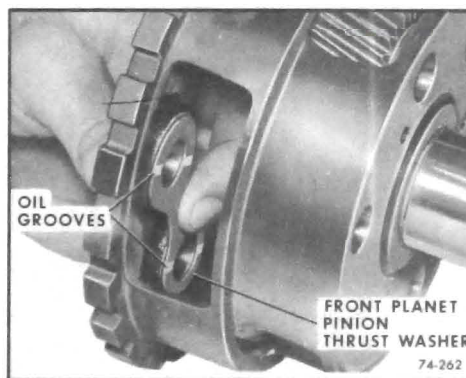

Figure 74-262
3. Install front planet pinion thrust washer. Retain thrust washer to case with petroleum jelly. Oil grooves on the thrust washer must be toward the pinion. See Figure 74-262.